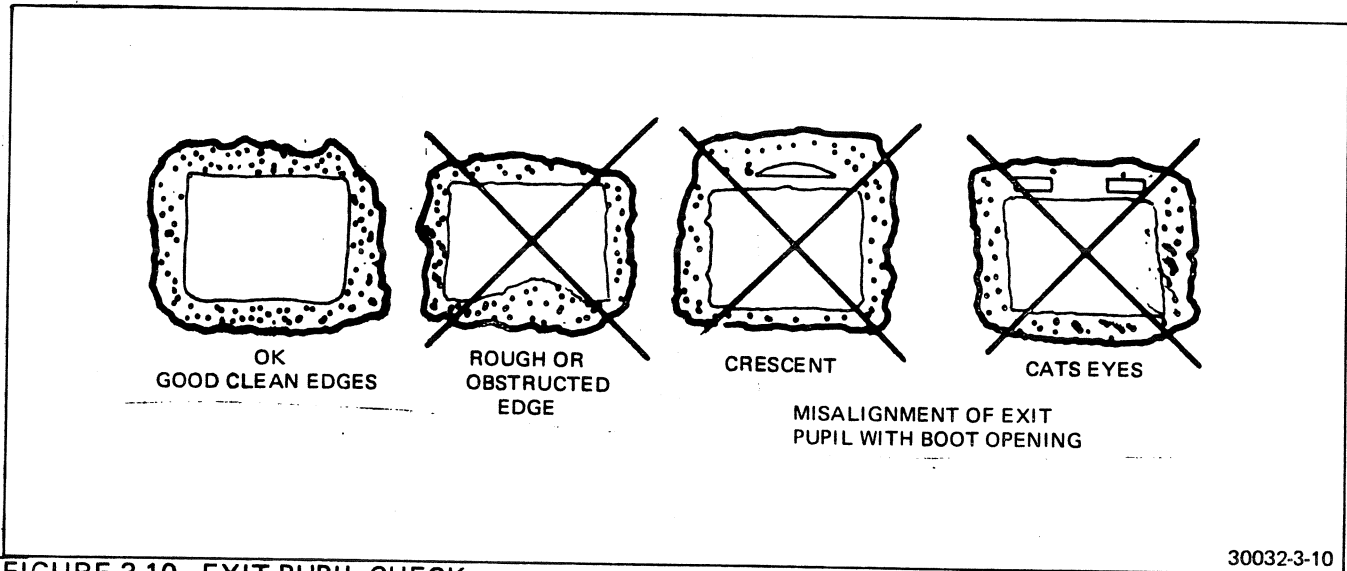

FIGURE 3-10 EXIT PUPIL CHECK
13. Perform an exit pupil check (Figure 3-10) by pointing the camera lens at a light source and, holding the viewfinder eye lens approximately 18 inches from the eye, observe the position of the rectangular or round (later models) stigmatic pupil opening.
An extra opening (crescent or "cat's eyes") as viewed by tilting the camera upward and looking above the aperture also indicates misalignment of the pupil with the boot as shown in Figure 3-10.